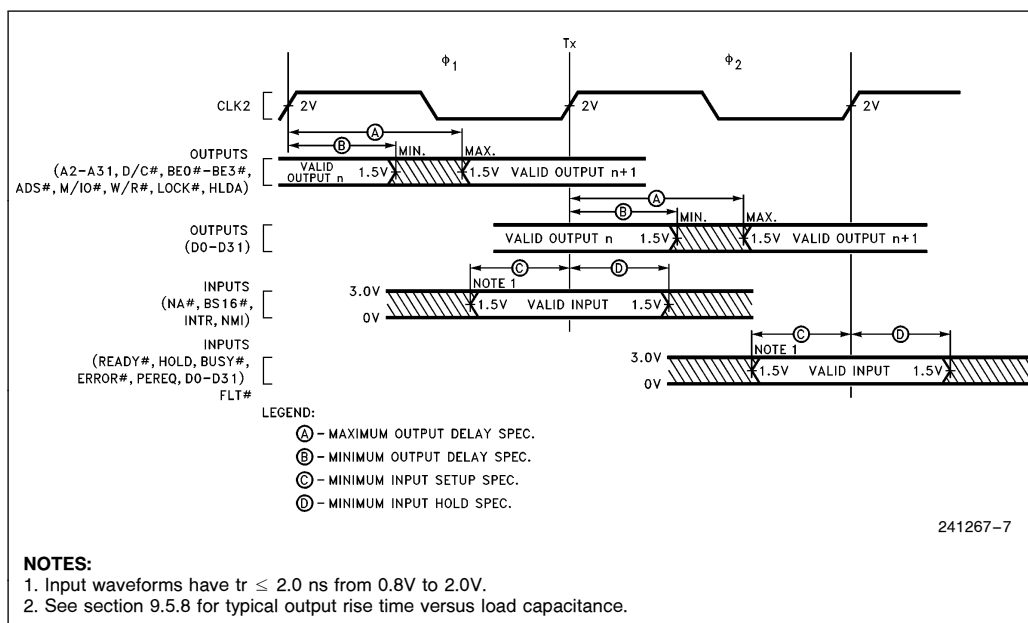

Figure 3-1. Drive Levels and Measurement Points for A.C. Specifications
A.C. spec measurement is defined by Figure 3-1. Inputs must be driven to the voltage levels indicated by Figure 3-1 when A.C. specifications are measured. Intel386 DX output delays are specified with minimum and maximum limits, measured as shown.